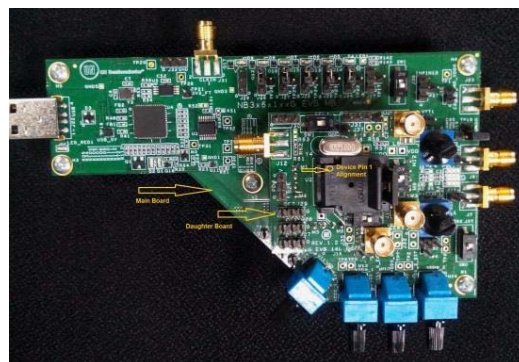

Figure 2. Top View of Main Board with 16QFN Daughter Board
- Place NB3H63143G in the DUT socket U2. For pin 1 alignment refer to Figure 2